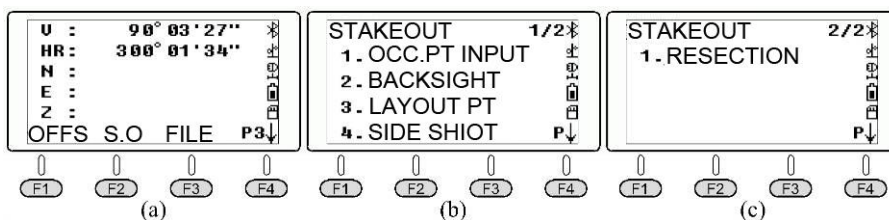

Figure 2-46 Execute the command “Stakeout” in the function menu on page P3 in Coordinate Measurement,
In the function menu on page P3 of Coordinate Measurement [Figure 2-46(a)], press **(F2)** (S.O) to enter the menu "Stakeout 1/2"[Figure 2-46(b)]. Press **(F4)** to turn pages repeatedly.
In the menu "Stakeout 1/2" [Figure 2-46(b)], the function of pressing ① (OCC. PT INPUT) is the same as the command "OCC." in the function menu on page P2 of Coordinate Measurement, and the function of pressing ② (BACKSIGHT) is the same as the command "BS" in the function menu on page P2 of Coordinate Measurement, which will not be repeated here. The following describes how to execute the command “LAYOUT PT” to stakeout point 1,